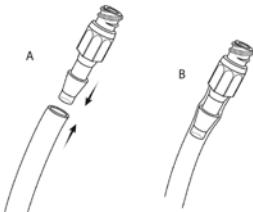

Figure 40
12. Attach catheter connector to catheter assuring catheter is completely advanced to connector hub. (Figure 40).